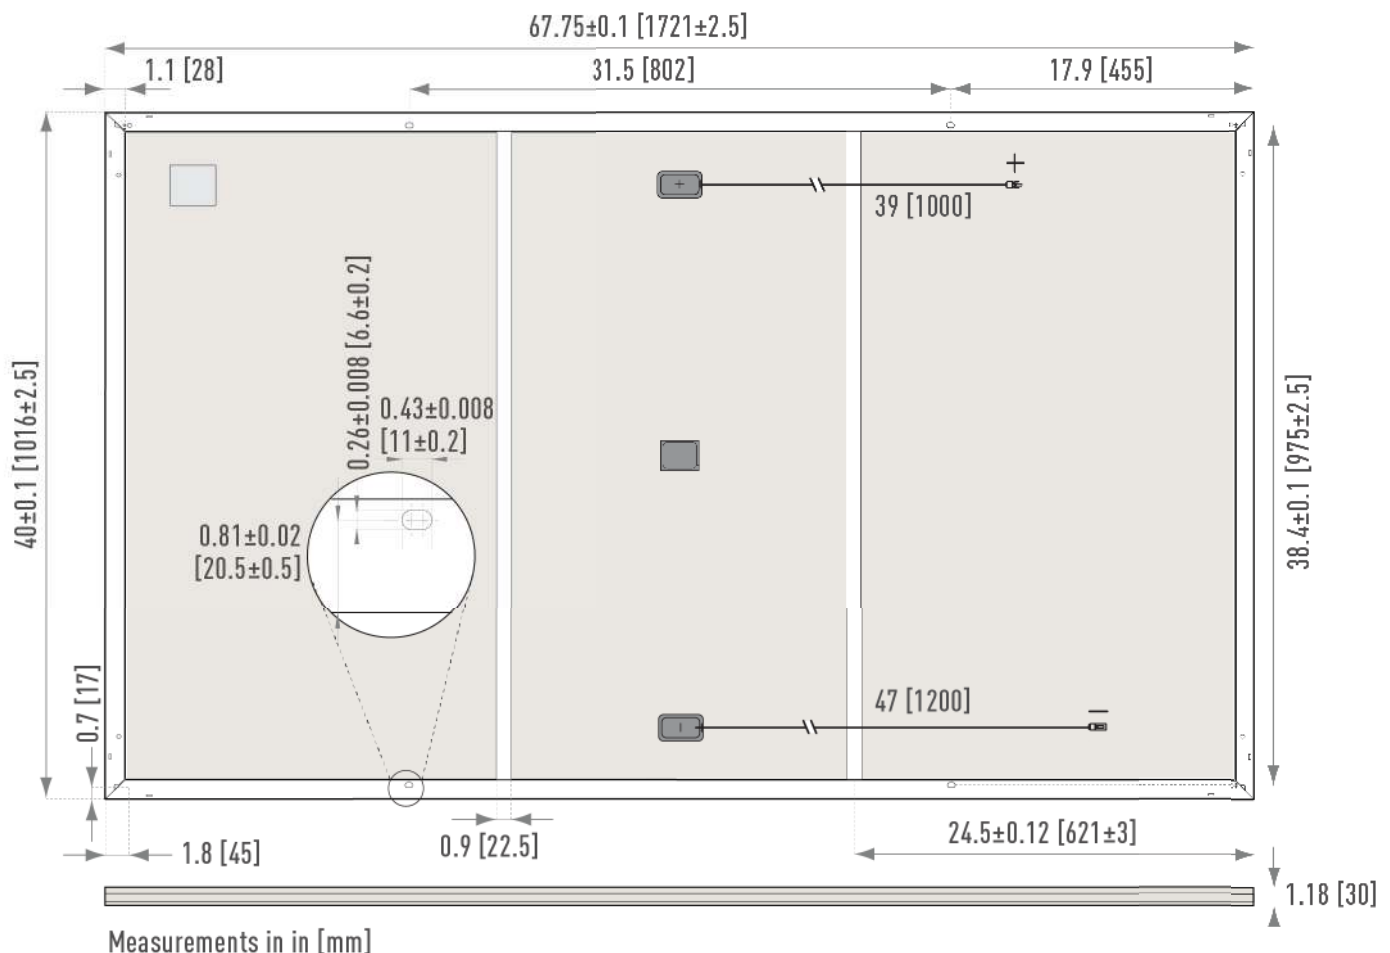

Figure 1. Module Dimension
- Module specifications are shown in Table 1 and Figure 1. (Electrical specifications, mechanical specifications, module dimensions)
- Each terminal is dedicated to one polarity (with the polarity symbols engraved onto the body of the junction box) (see Figure 1).
- 3) The wind pressure load of the installation site should be less than Load Resistance shown in "Mount Locations and Load Resistance" table in Figure 1.